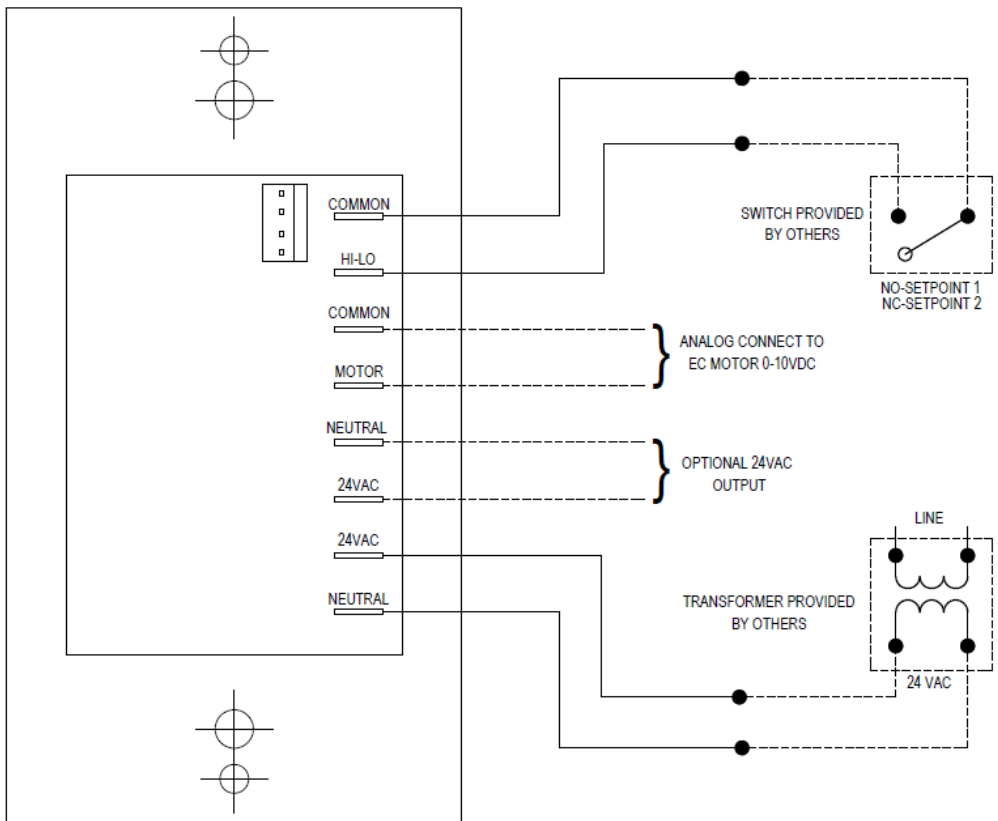
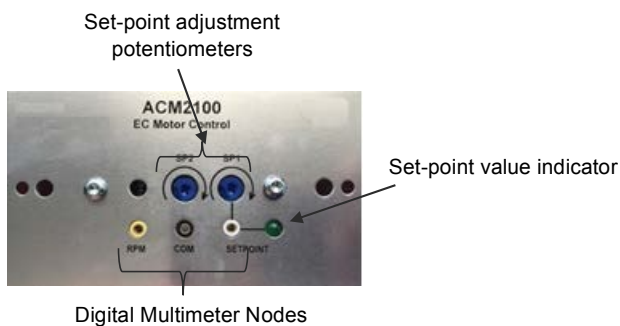

Figure 1: Terminal Block Wiring Diagram
Figure 2: MS Controller Faceplate
2. Apply system power, MS controller require 24 VAC for proper operation (Figure 1) Then, proceed to slowly adjust SP1 to the desired set-point value per your application.
5. To set the second motor speed (SP2), follow steps 1 and 2 above using SP2 potentiometer – see Figure 2. Using an external switch, the output may be toggled between the SP1 and SP2 as indicated below (see Figure 1, for more details):